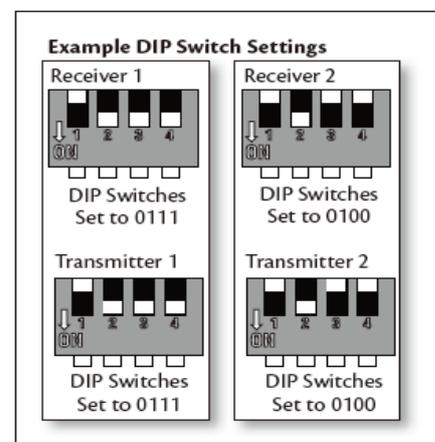

Fig. 9 Receiver DIP switch
- The remote (transmitter) and receiver must be configured so that communication between each other is paired up. This is achieved by setting the DIP switch on the receiver and remote on the same setting. **Fig. 9**